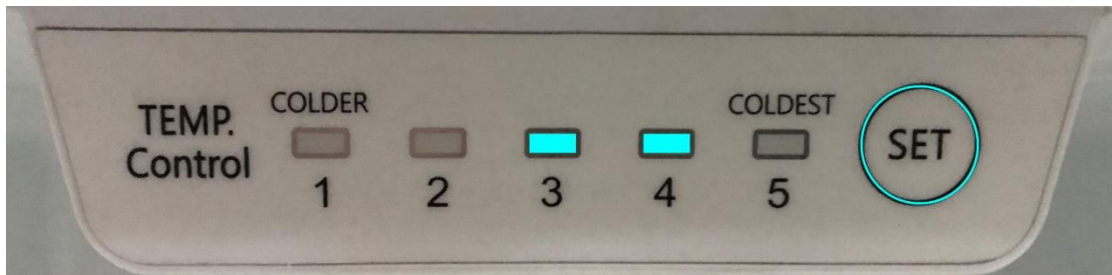

Figure 2-4
4. Fan failure: LED3 and LED4, as shown in Figure 2-4;